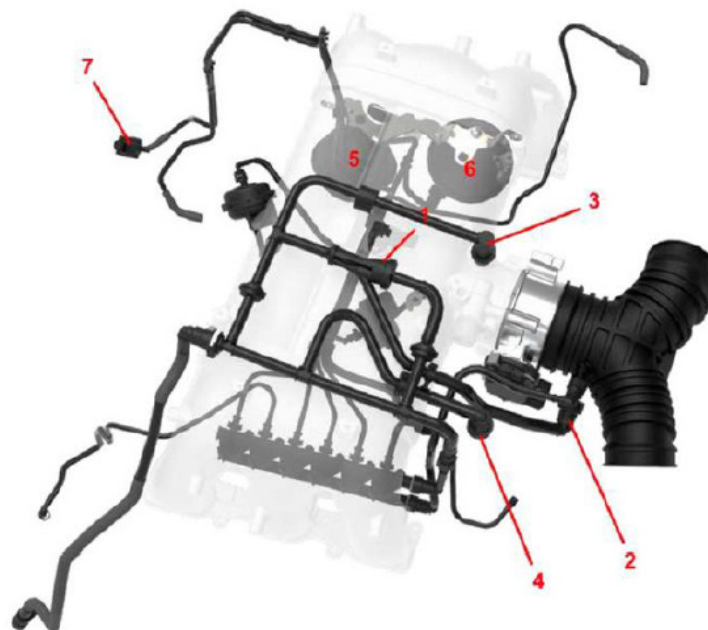

Figure 2
- a. Check the vacuum line connections at the pressure accumulators underneath the intake manifold (5 and 6 in Figure 2 below).
- Figure 2: numbers 1-6